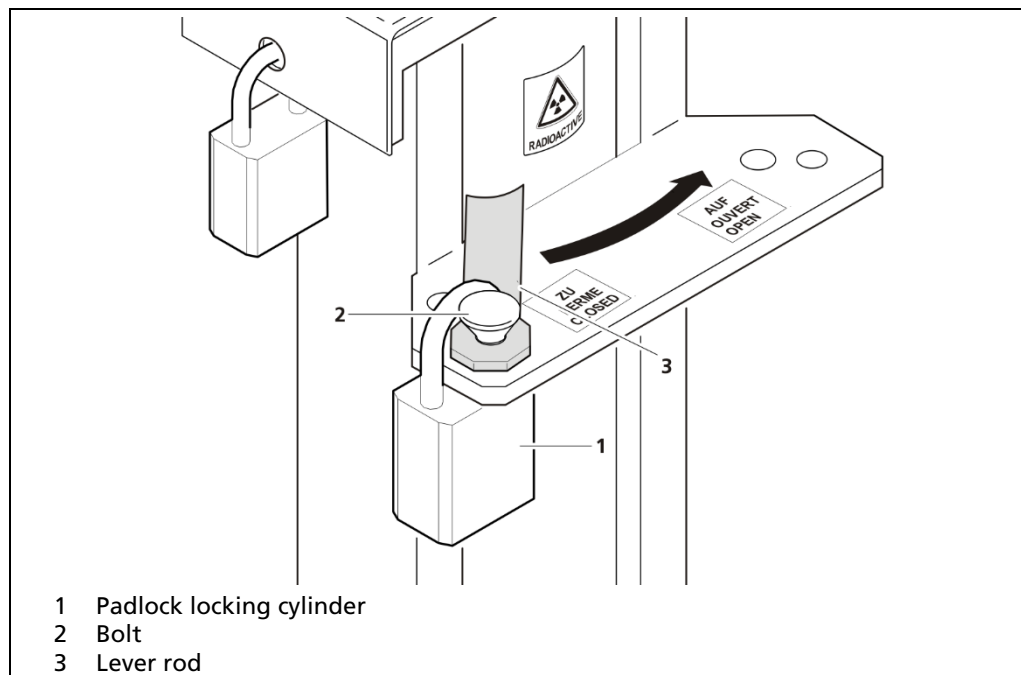

Fig. 4 Opening the locking mechanism
1. If applicable, remove the padlock (Fig. 4, item 1).
2. Remove the bolt (Fig. 4, item 2).
3. Turn the locking cylinder to the OPEN position using the lever rod (Fig. 4, item 3).
1. Remove the bolt (Fig. 4, item 2) and the padlock (Fig. 4, item 1).
2. Turn the locking cylinder to the CLOSED position using the lever rod (Fig. 4, item 3).